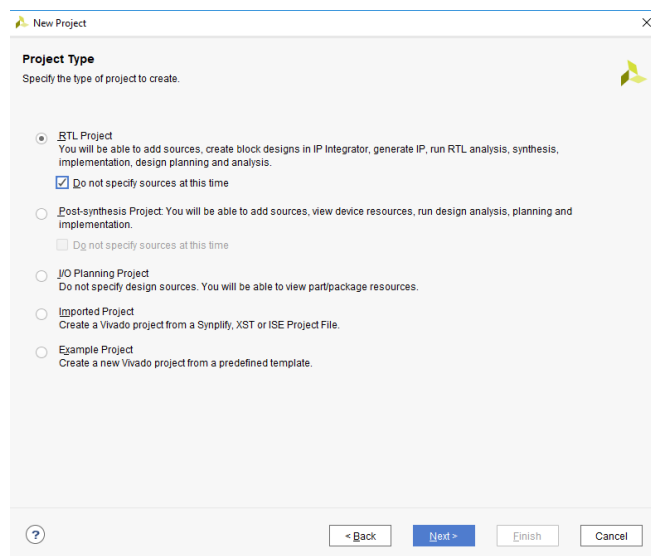

Figure 3: Setting project type
4. Now that the project has a name and a place to save its files, the type of project needs to be selected. For this tutorial, we will create our digital designs from scratch. Select "RTL Project" and check "Do not specify sources at this time" (see Fig. 3). We will create the source files later on this tutorial. Click "Next" to continue.